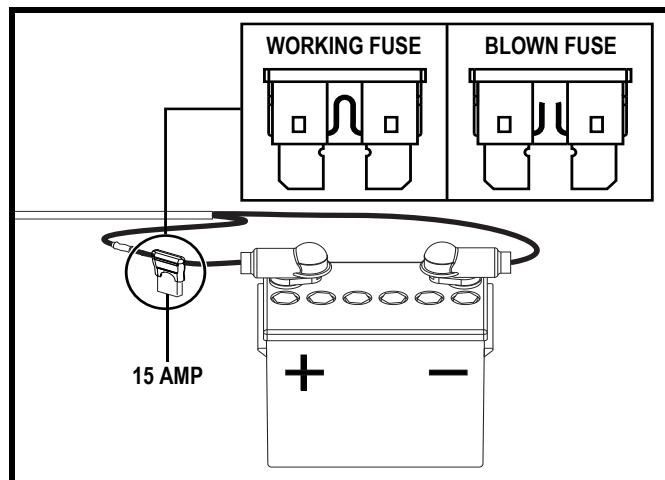

Figure 9. Hardwire Fuse
- If the circuit breaker reset button is not tripped, check the hardwire fuse to see if it is blown. Replace if necessary. See **figure 9**.
- Check the fuse located on the red power wire near the battery. If blown, replace with a new 15-amp fuse. See **figure 9**.